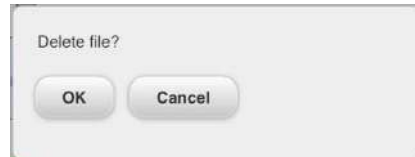

Fig. 5-14
- (2) Select a folder to save to. If you select All, all data files are displayed.
- (3) Select a desired data file.
- (4) Press the [Delete]  button.
- (5) When the window shown in Fig. 5-14 appears, click OK. The data will be deleted.